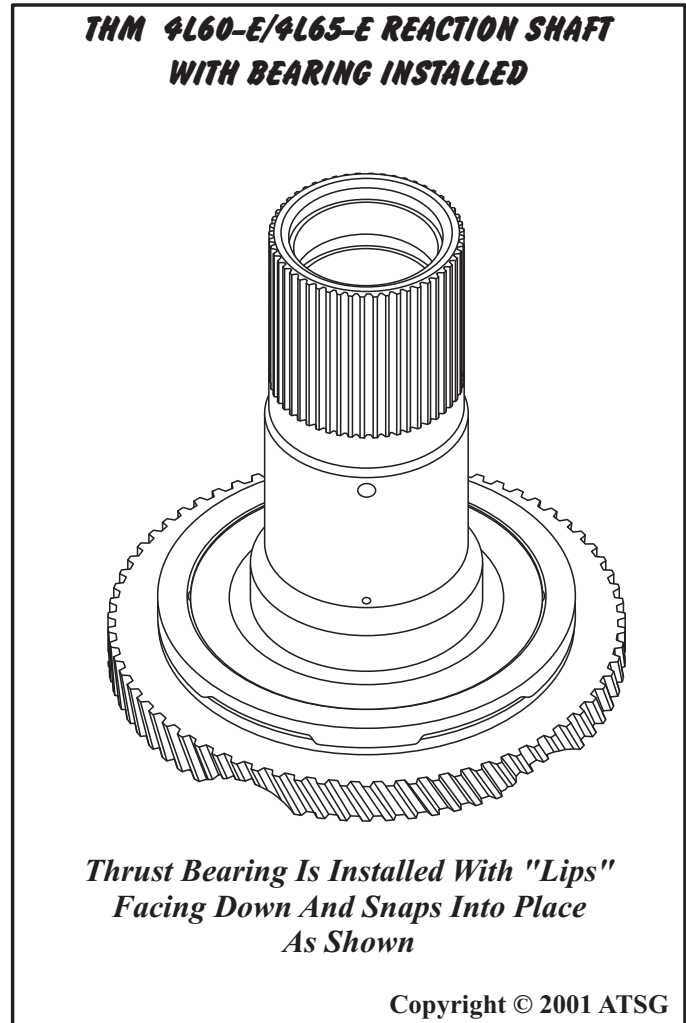

Figure 4
- (2) 3-4 CLUTCH BACKING PLATE - Required dimensional changes to accommodate the added friction and steel plate, and to achieve the proper 3-4 clutch clearance. There are four new thickness backing plates and one of the previous backing plates, to ensure proper 3-4 clutch clearance, as shown in Figure 4.